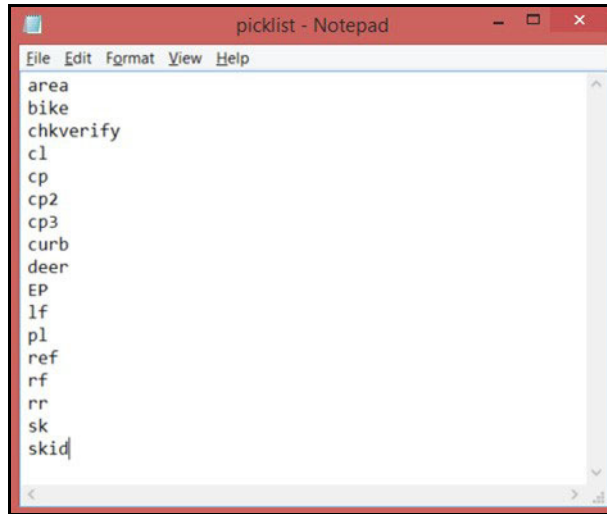

Figure 83
- Use a program such as Microsoft Notepad to create the text file (Figure 83). Notepad is typically found by clicking on the Windows icon to access All Programs > Accessories on PCs running Windows Vista, Windows 7, Windows 8 or Windows 10.